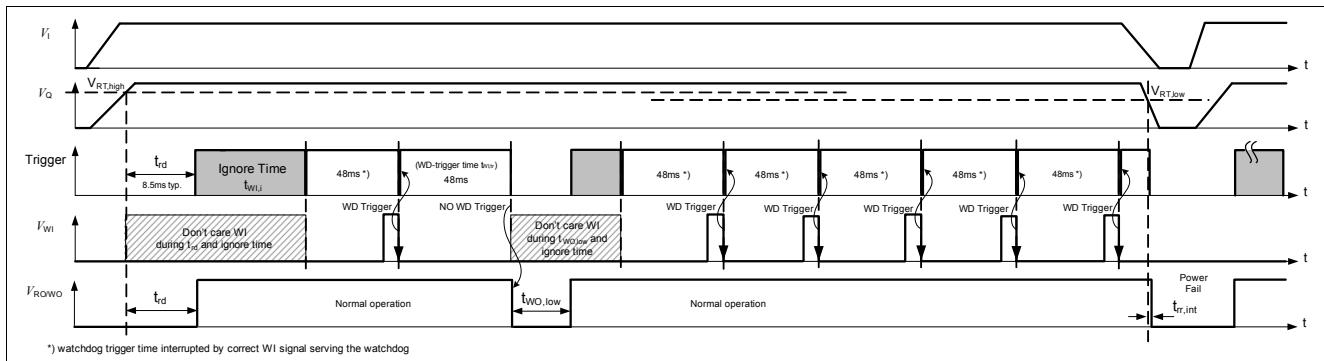

Figure 9 Typical Watchdog Timing Diagram, Watchdog and Reset Modes
Figure 9 shows the state diagram of the watchdog (WD) and the mode selection. After power-on, the reset output signal at the “RO/WO” pin (microcontroller reset) is kept LOW for the reset delay time t_{rd} . With the LOW to HIGH transition of the signal at “RO/WO” the device starts the watchdog ignore time $t_{WI,i}$. Next, the WD starts the watchdog trigger time (time frame within a trigger at WI must occur).